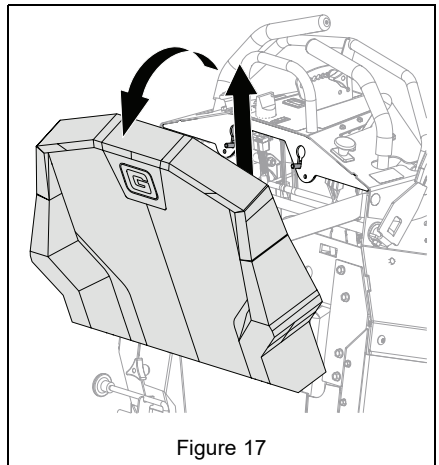

Figure 17
7. Pull access pad upward and then rearward to remove. See Figure 17.